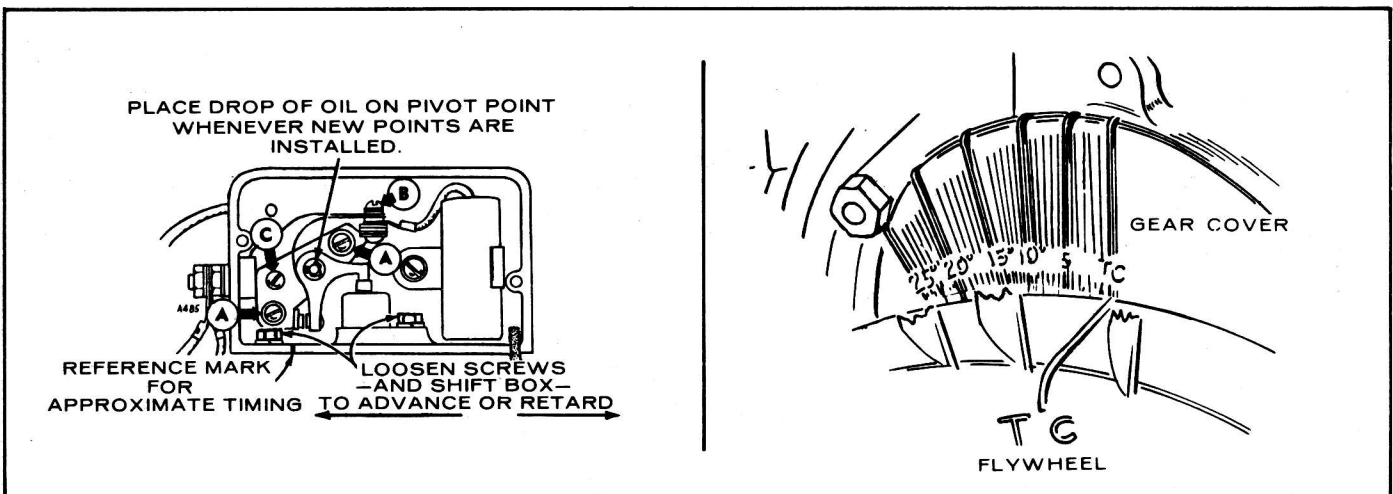

FIGURE 36. IGNITION TIMING
3. Remove the two mounting screws (A) and pull the points out of the box just far enough so screw (B) can be removed. See Figure 36. Replace points with a new set but do not completely tighten mounting screws (A).
4. Rotate the engine clockwise (facing flywheel) by hand until points are fully open. Turn screw (C) until point gap measures 0.020 inch (0.508 mm) with a flat thickness gauge.
Each time new breaker points are installed, place a drop of oil on the point's pivot point (Figure 36).